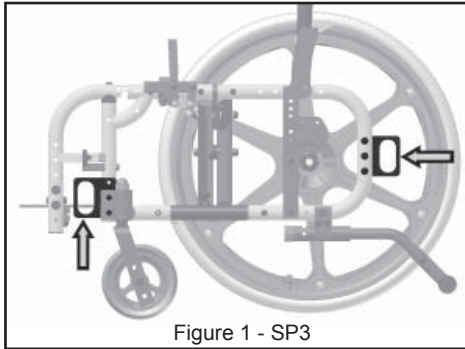

Figure 1 - SP3
5. The WTORS **must** be attached at each of the four securement points (see figures 1 - 7, page 8).
- SP3 Figure 1